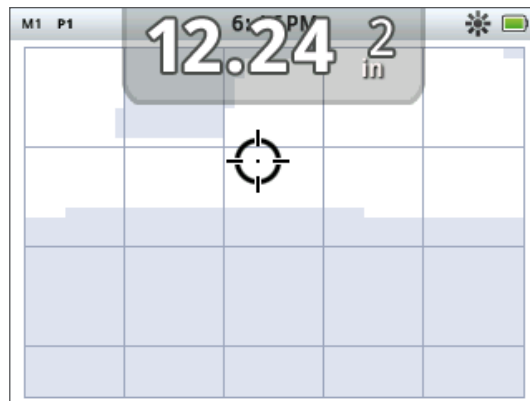

Figure 8 – Detect screen showing discrimination scale
Discrimination is the detector's ability to identify and classify signals from metallic materials, then mask signals from undesired trash and highlight signals from desirable targets. The CTX 3030's advanced signal processing simultaneously analyses objects according to their conductive (CO) and ferrous (FE) properties. The different FE-CO properties can be displayed numerically and graphically on the Detect screen as well as being heard as distinctive audio tones based on these properties. The CTX 3030 utilizes Minelab's unique scale of discrimination, which numerically represents a target's ferrous and conductive properties on the same display (Figure 8).